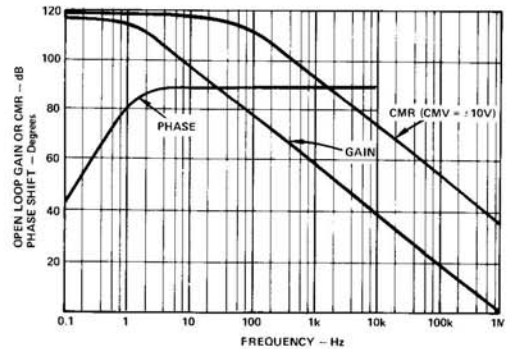
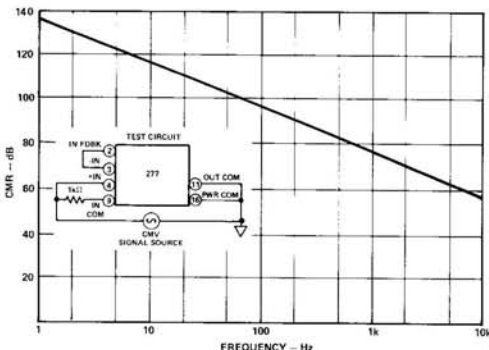

Figure 2. Input Stage Gain, CMR and Phase vs. Frequency
Figure 5. Input-to-Output CMR vs. Frequency with 1kΩ Source Imbalance
**Common Mode Rejection:** A 160dB rejection of potential differences between input and output common is achieved in model 277 by maintaining low coupling capacitance between the input and output stages. Input-to-output rejection is a function of frequency as shown in Figure 5 under the adverse condition of 1kΩ in series with IN COM. CMR versus frequency for the input stage is shown in Figure 2.